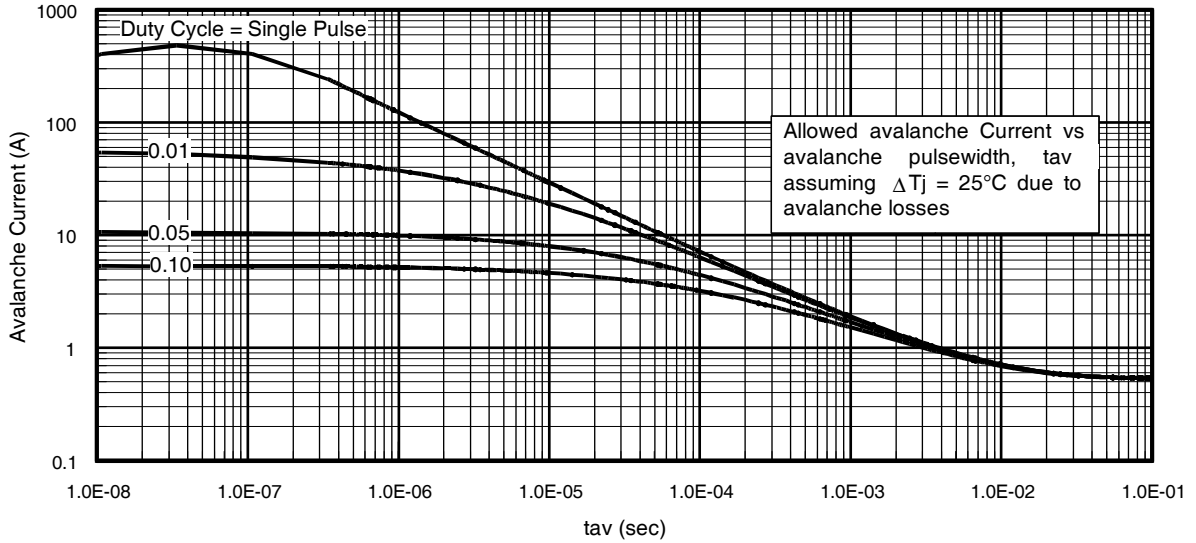

Fig 15. Typical Avalanche Current vs.Pulsewidth
**Notes on Repetitive Avalanche Curves , Figures 15, 16:
7.  $\Delta T$  = Allowable rise in junction temperature, not to exceed  $T_{jmax}$  (assumed as  $25^\circ\text{C}$  in Figure 15, 16).